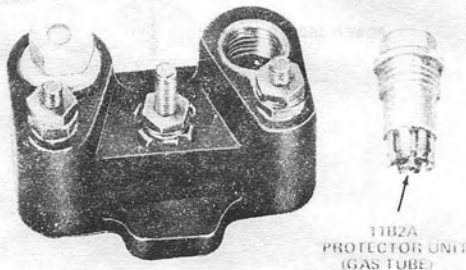

Fig. 3—123E2A Protector
3.04 The 123E2A protector (Fig. 3) provides protection for one pair of wires and is intended for